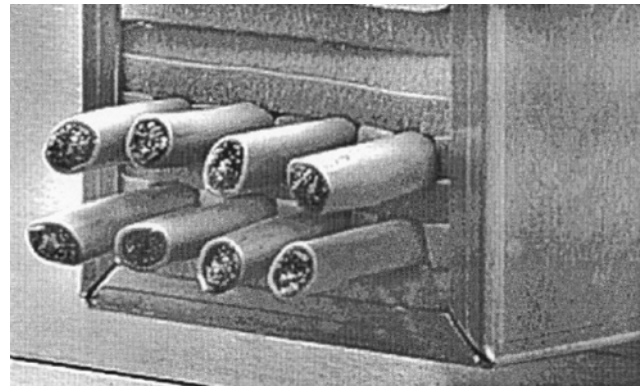

Figure 2
2. Sort and comb cables for smooth and straight access through the penetration. See Figure 2.